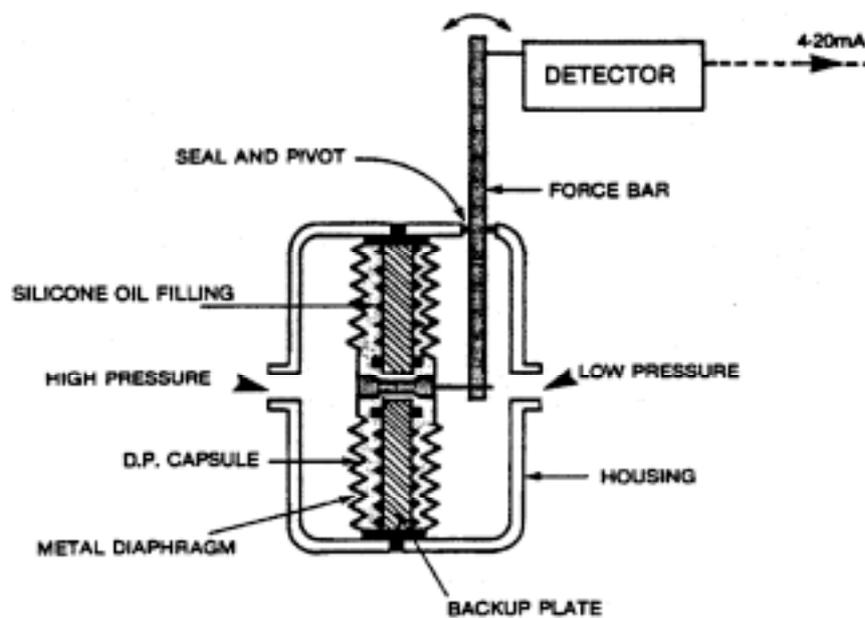

Figure 3: A Typical DP Transmitter Construction.
Figure 3 shows the construction of a typical DP transmitter.
- The DP capsule (refer to Figure 3) is formed by welding two metallic (usually stainless steel) diaphragms together.